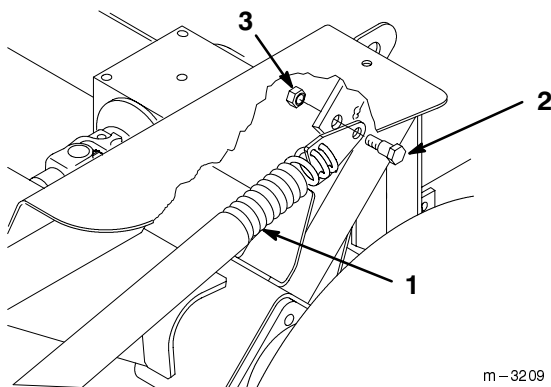

Figure 26
7. Check to see if tension has been removed from the spring assemblies. If tension remains add blocks to raise carrier frame higher. If there is too much tension use a smaller block (Fig. 26).
8. Remove shoulder bolts (3/8 x 7/8 in. (23 mm)) and locknuts (3/8 in.) securing spring end plate assemblies to carrier frame (Fig. 26).